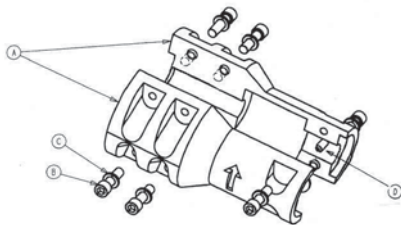

Figure 7
11. Install the dowel pin on the pump shaft. Assemble the shaft coupling as indicated on Figure 7. Tighten the two socket head screws on the pump end of the coupling. Do not tighten those on the motor end at this point